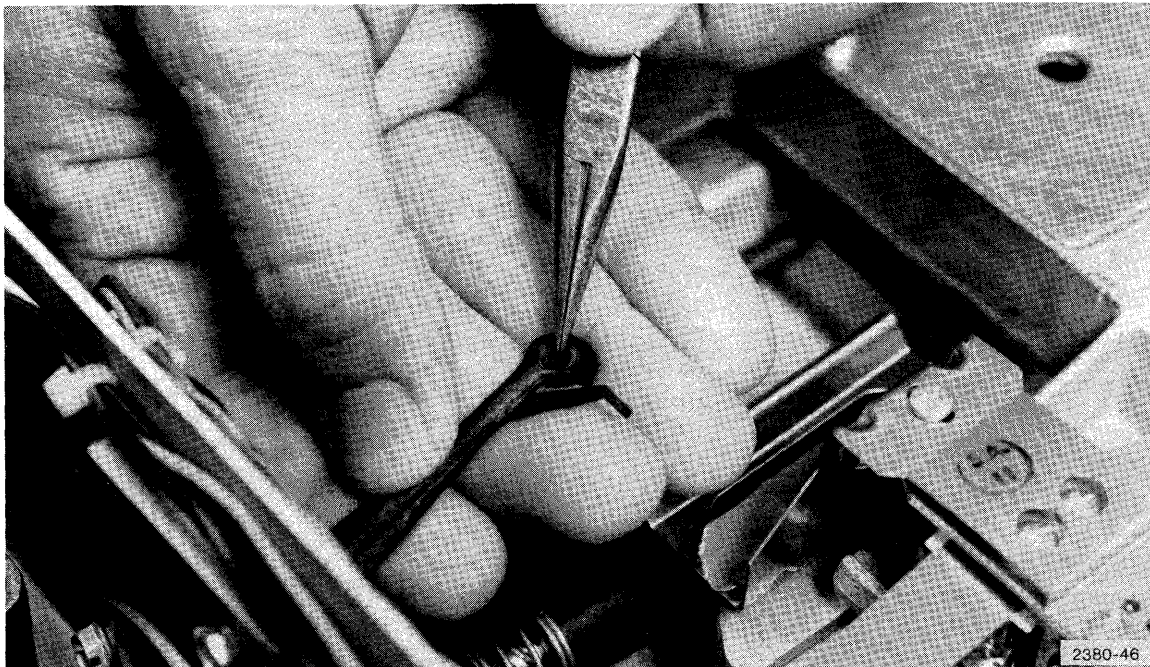

Figure 4-7. Removing Head Load Button.
2. Using needle nose pliers, squeeze together the locking tabs on button, while pushing the button out the bottom of the arm (Figure 4-7).